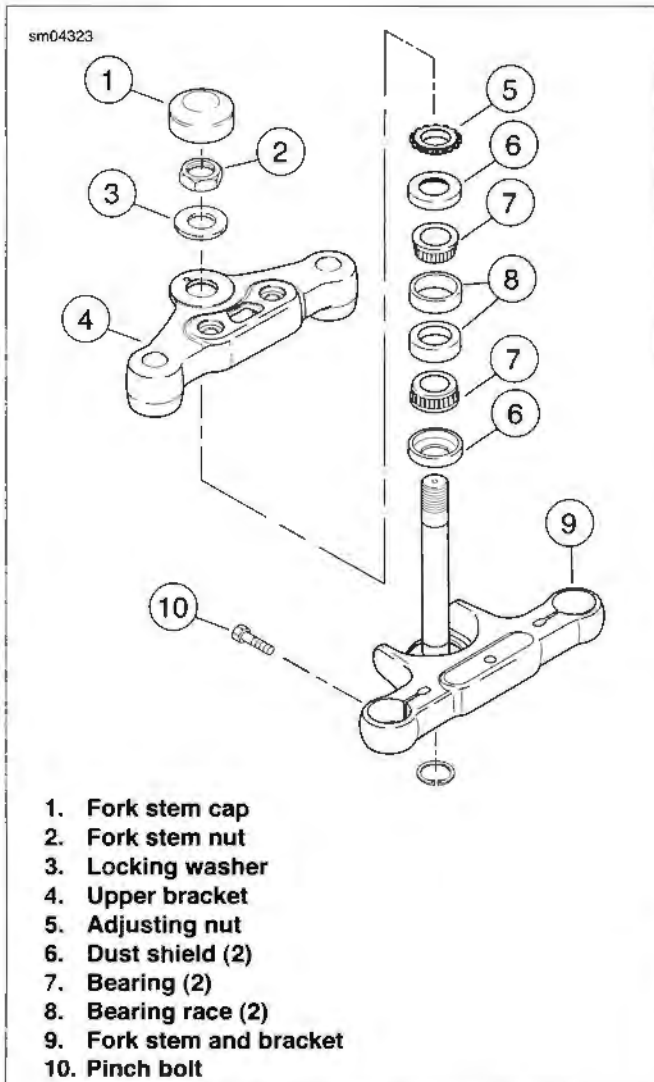

Figure 2-80. Steering Head: FXCWC
- See Figure 2-80. Remove the brake hose bracket from the bottom of the fork stem and bracket (9).
- Remove the fork stem cap (1). Remove the fork stem nut (2) with the handlebar and upper bracket (4) as an assembly.
- Remove the adjusting nut (5) and pull the fork stem and bracket (9) out of the steering head.
- Remove the upper dust shield (6) and bearings (7) from steering head.
1. See Figure 2-80. Insert the fork stem bracket assembly (9) (with lower dust shield and bearing) into the frame steering head and install the upper bearing (7) and dust shield (6). Secure with the adjusting nut (5).
2. Install the upper bracket (4), a **new** locking washer (3), and fork stem nut (2). Be sure pin on locking washer is engaged in upper bracket hole.